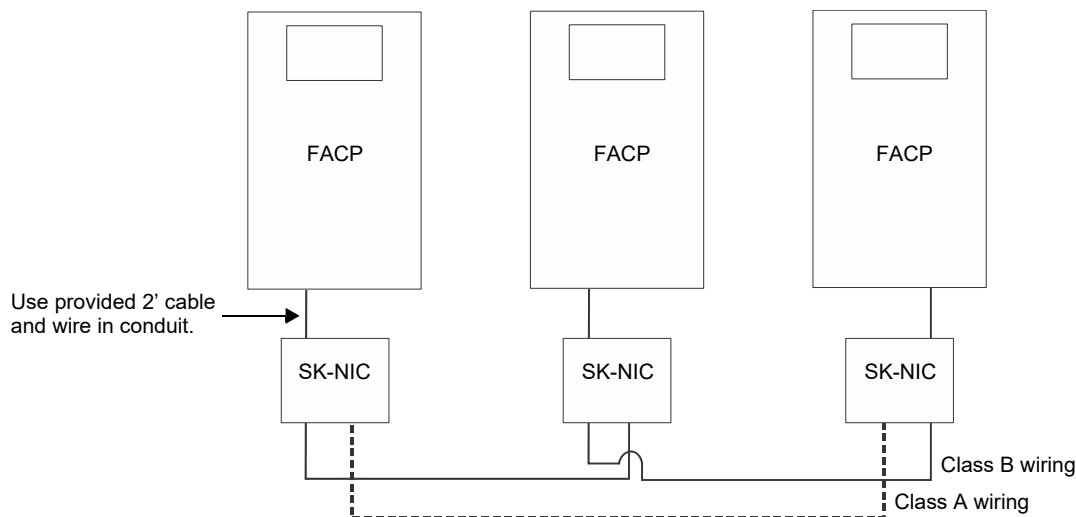

Figure 5.1 External SK-NIC Wiring Option
When networking in a group of IFP-75 panels, you must use the SK-NIC to link the panels together. See Figure 5.1 for external mounting of SK-NIC option.
2. Use the 6-pin cable included with SK-NIC to connect the IFP-75 to the SK-NIC. The 6-pin cable must be run in conduit between cabinets. Refer to Figure 5.1.